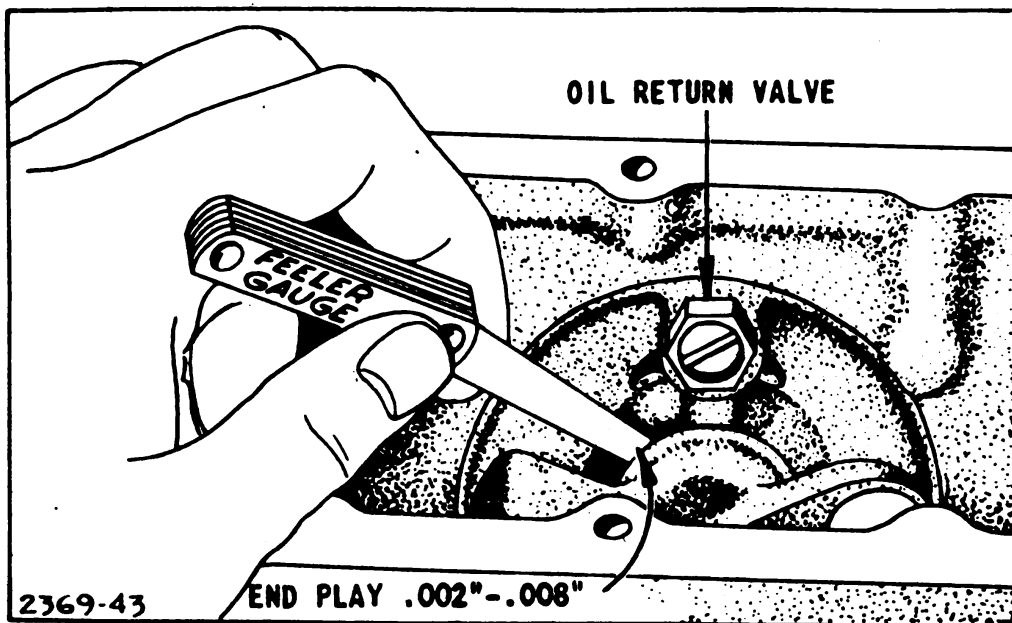

Figure 13.—Checking end play
21. TO REPLACE MAGNETO.—Use same gasket between plate and crankcase or if damaged a new gasket, see parts #67307, #67597, or 67607# for proper thickness to get correct end play of .002 to .008 inch between magneto bearing and crankshaft thrust faces (fig. 13). Use lock washers when mounting screws.
b. Air gap of .008 to .012 inch must be maintained between armature core ends and flywheel (fig. 16). Gap must only be sufficient to prevent rubbing and must not exceed .012 inch. To adjust gap to proper clearance, loosen the four armature-mounting screws, slide armature assembly up, and place correct feeler gauge or three thicknesses of newspaper between rim of flywheel and armature core end. Lower armature assembly until core ends rest on gauge and tighten mounting screws securely (fig. 13).
36. OIL LEAKS.—If oil leaks from either end of crankshaft main bearings, remove base from engine. Oil return valves are screwed into crankcase and magneto back plate below main bearings. Remove oil return valve and clean or flush with gasoline and blow out any dirt lodged under the small disc. Replace if necessary (fig. 13).